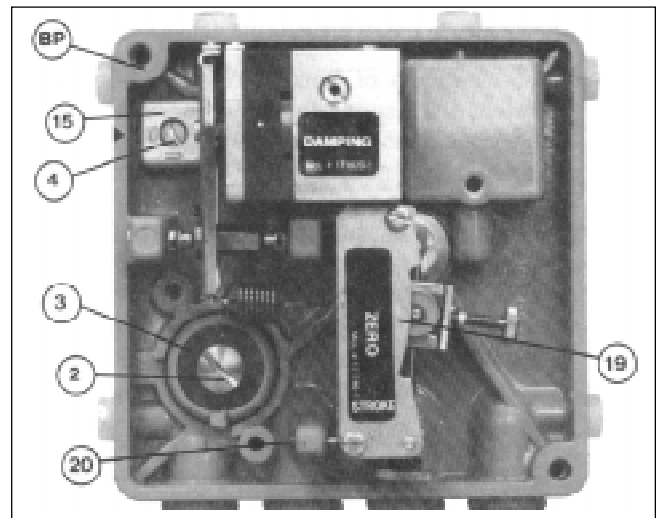

Figure 7
9. Press the stroke factor lever (19) (See Figure 7) of the positioner's internals against the travel stop pin (20) and hold firmly in place. Place the #5 Allen wrench into the head of the socket cap screw (21), and tighten while still holding stroke factor lever (19). Tighten firmly. (A 5 mm, #5 metric Allen wrench should be provided with the unit.)
10. Install tubing fittings with acceptable thread sealant and tubing from the unit's 1/4" NPT (female) "OUTPUT 1" port of the adapter block(AB) up to
- (2) test gauges - 30 psig (for 20 psig max bench range); (1) test gauge - 30 psig and (1) test gauge - 60 psig (for 30 psig max bench range)
B. Manual Bypass Setting: (See Figure 7)
- There are two positions for the pneumatic bypass switch (3) to be in: